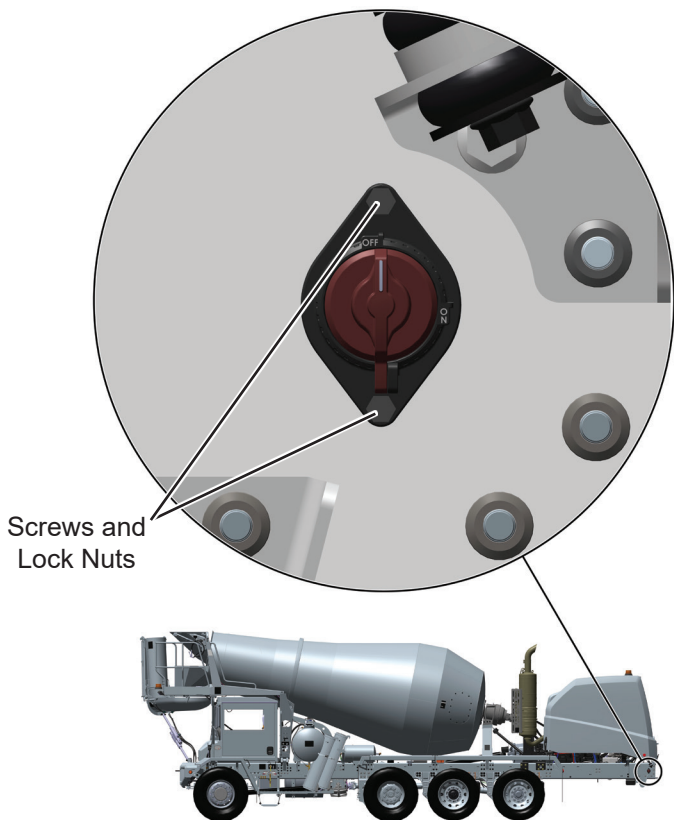

Figure 4. Battery Disconnect Switch Mounting Hardware
14. Loosen and remove the 0.31-18 x 1.25 inch screws and lock nuts securing battery disconnect switch to frame rail. See Figure 4. Save mounting hardware for installation of new battery disconnect switch.